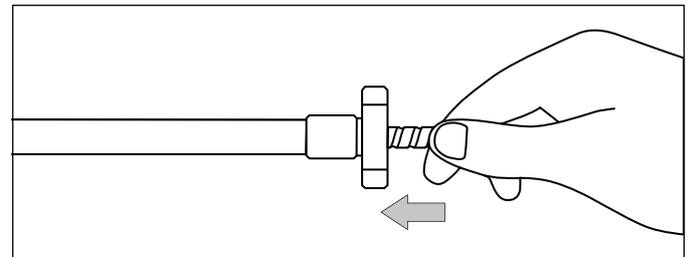

Fig. 20: Hold the flexible sensor rod close to the flange when inserting it
2. When inserting the flexible sensor rod, hold it close to the flange and insert it slowly into the support tube (Fig. 20). This allows air in the support tube to escape.
- When inserting the flexible sensor rod, hold it close to the flange and insert it slowly into the support tube (Fig. 20). This allows air in the support tube to escape.